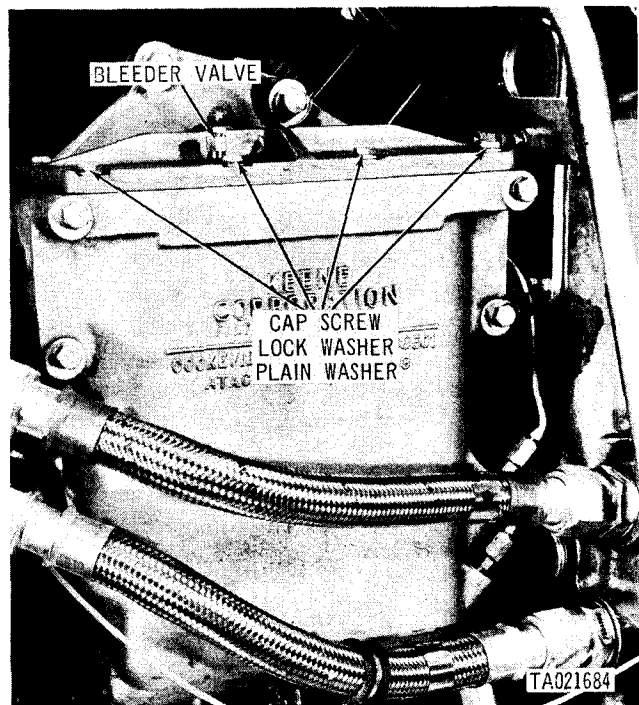

Figure 2-65. Removing or installing fuel/water separator filter cover.
(2) Remove eight capscrews, lockwashers and plain washers (fig. 2-65).
(1) Install two new outer coalescer elements (fig. 2-66) in filter body, and a new preformed packing on body cover. Install cover and secure with eight capscrews, lockwashers and plain washers (fig. 2-65).